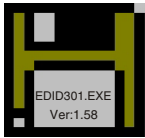

Figure 1 Diskette with EDID301.EXE
- 3. EDID301.EXE program (3138 106 10103) shown as Fig. 1